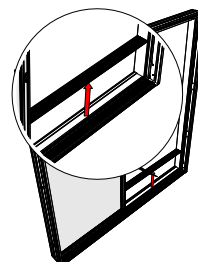

Figure 10: Remove tread cover
- E: Removing the tread cover (figure 10)